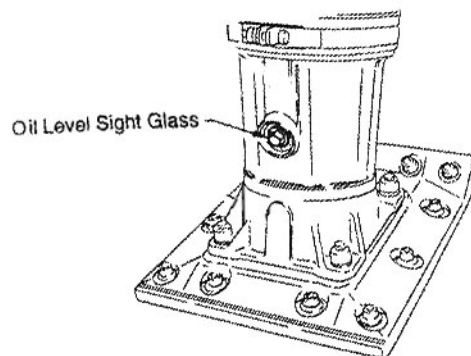

Figure 13 Foot Housing Drain Plug
- Drain oil reservoir on foot housing (Figure 13). Refill with approximately 1.7 pt. (800cc) of 10W-30 motor oil. Oil should be midway in sight glass. Break in oil should be changed after first 50 hours.